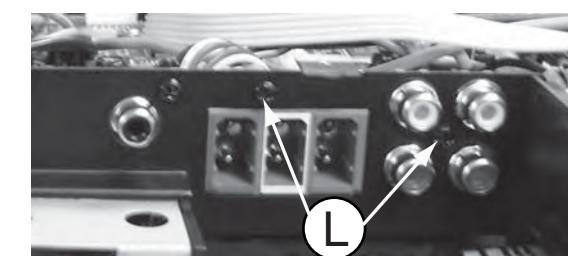

Figure 13
- 2) Loosen 2 screws "L" on the MAIN PCB bracket to remove AUX PCB as shown in figure 13.